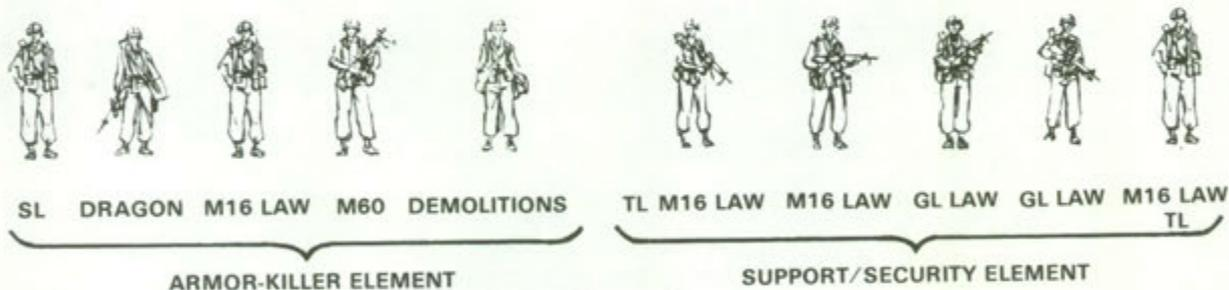
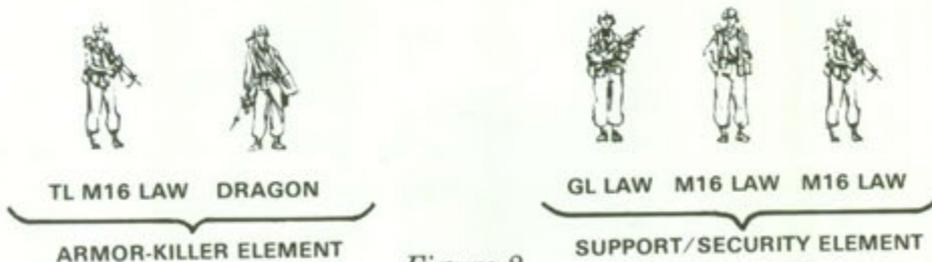

Figure 1.
Figure 2.
5. The size of the antiarmor ambush varies according to the mission. The organization of the rifle squad lends itself to the mission of the antiarmor ambush because it is normally composed of two fire teams (figure 1). If the antiarmor ambush requires less personnel, one fire team may be given the mission to conduct the ambush (figure 2).